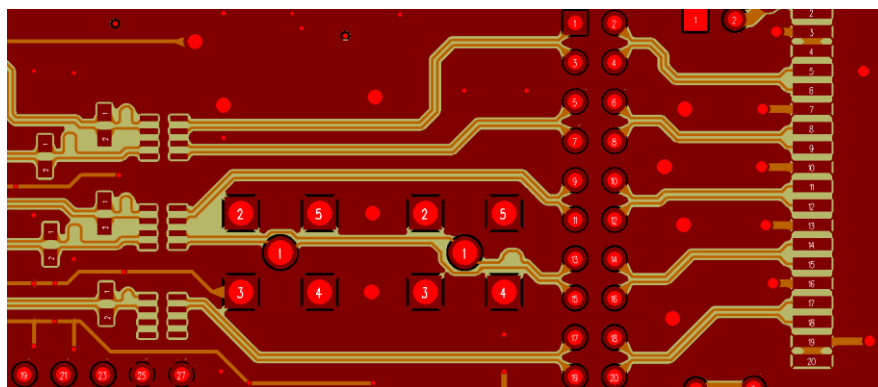

Figure 5 LVDS layout
- For a 6-layer PCB, 7.5-mil traces with 7.5-mil spacing results in approximately 90ohm differential trace impedance for DP and DN. The figure 5 shows the rule.